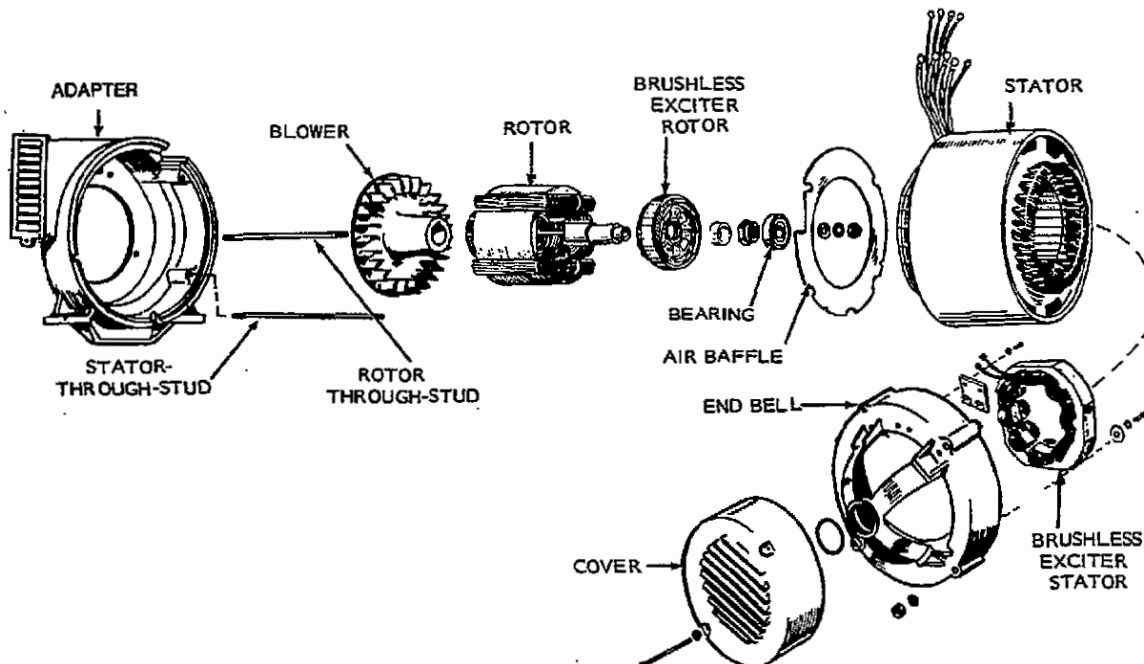

FIGURE 38. GENERATOR DISASSEMBLY
- stator assembly, Figure 38. Screwdriver slots in adapter provide a means for prying stator loose. Be careful not to let stator touch or drag on rotor.